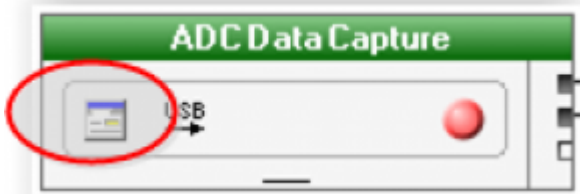

Figure 6. Changing the ADC Capture Settings
4. Click the **Settings** button in the **ADC Data Capture** block as shown in Figure 6